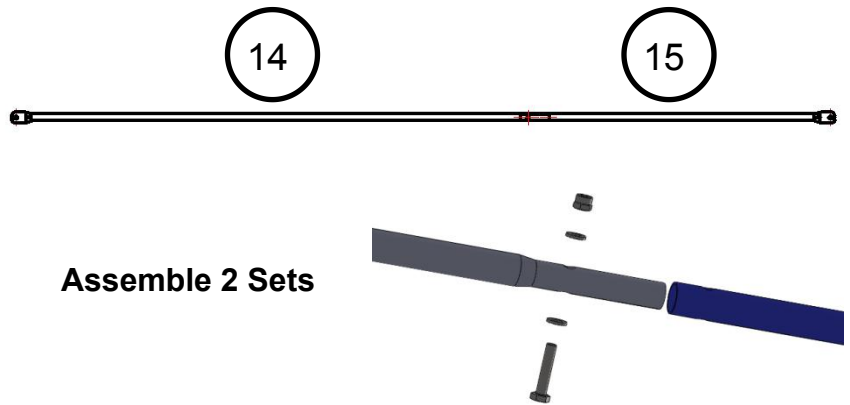

Figure 14A
Locate two Male Cross Braces (#14) and two Female Cross Braces (#15). Bolt a single Male Section (#14) to a single Female Section (#15) using one (1) M6x30 Bolts, two (2) Steel Washers and one (1) Locknuts as shown in Figure 14A.